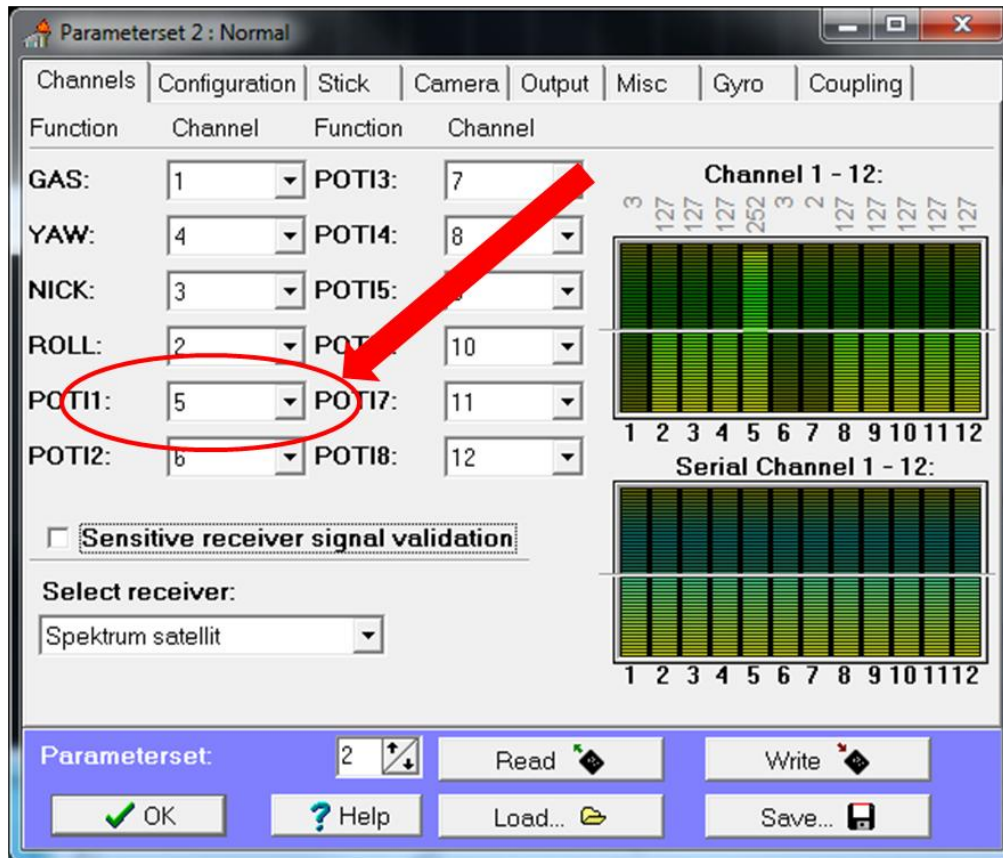

Figure 2: "Channels" tab with desired channel for ExternControl parameter set high
- c. Select the “Channels” tab. This should be a familiar menu already if you’ve configured your RC transmitter. Identify a channel you’d like to use for the parameter that needs to be set high. Specifically, the parameter needs to be set to be greater than 128. One of the two-position switches on the RC Tx should work fine for this. In Figure 2 below we have the two position switch associated with channel 5 of our Tx set to high. Notice (as highlighted in Figure 2 below) that the software associates “Poti1” with this channel.